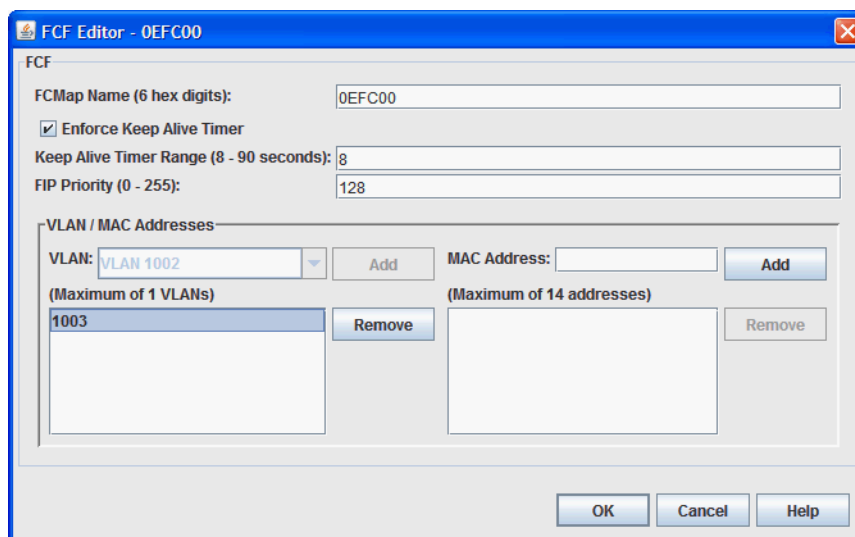

Figure 10-6 Virtual Fabric Extension Module FCF Editor
- b. In the FCF Editor window (Figure 10-6), follow these steps: